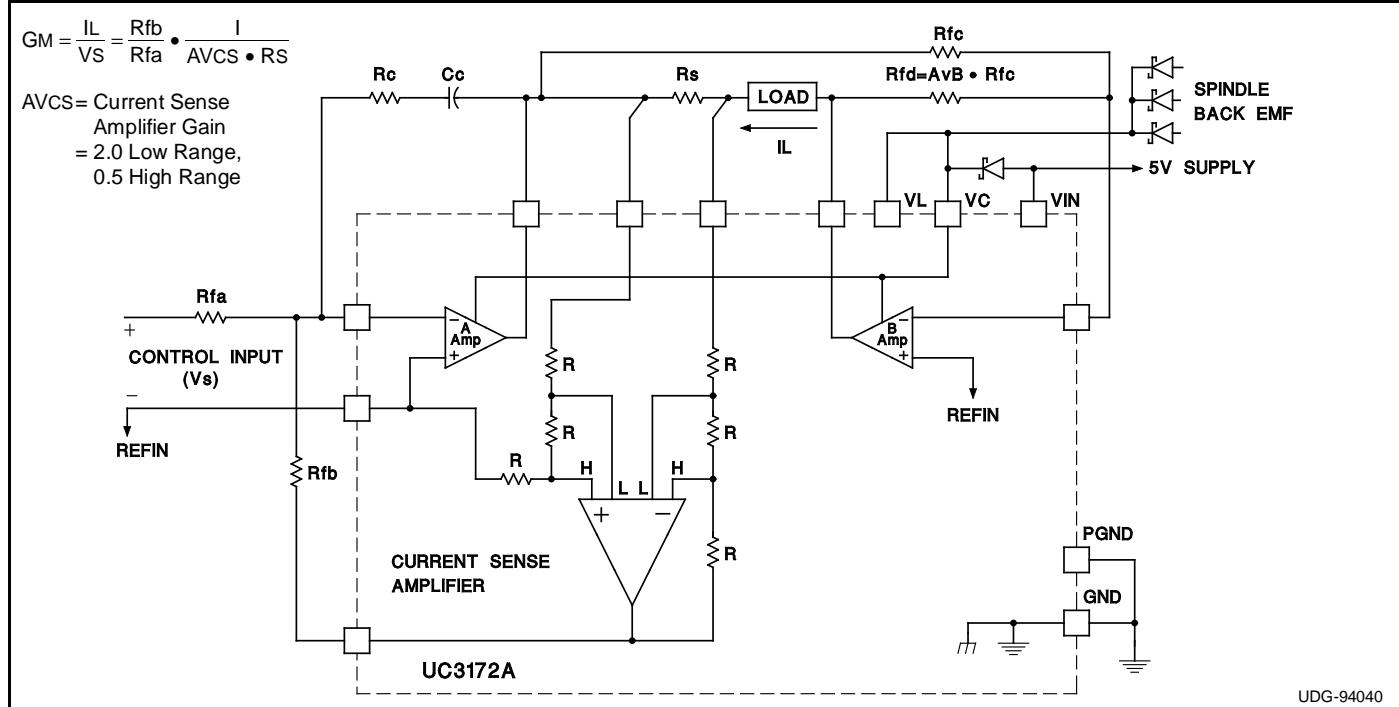

Figure 1. Typical Application
The following is a simple design flow that can be used to configure the UC3172A or UC3173A Full Bridge Power Amplifiers as shown in Figure 1.
E. The normal configuration for compensation of the power amplifier is shown in Figure 1. A simple RC network,  $R_C C_C$ , around the A amplifier is all that is required.
In the closed loop transconductance amplifier, the A amplifier operates at the highest noise gain. Noise gain is a measure of the feedback ratio at which the amplifier is operating. For the configuration of the A amplifier in Figure 1, the noise gain is given by the impedance ratio of the  $R_C$ - $C_C$  series network, to the parallel combination of  $R_{FA}$  and  $R_{FB}$ . For the A amplifier to operate at its expected closed loop gain, the noise gain at any frequency must not exceed its Gain Bandwidth Product (GBW) divided by that frequency. Applying this to the expression above will yield a result for the maximum 3dB bandwidth that can be achieved for a given configuration.